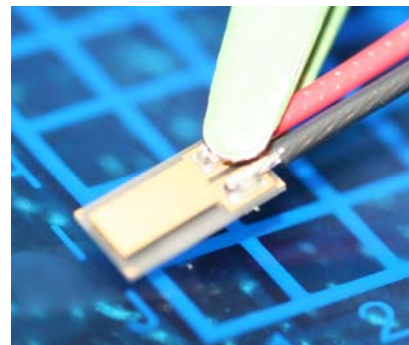

Figure 4
- Lift module upward [Figure 4]